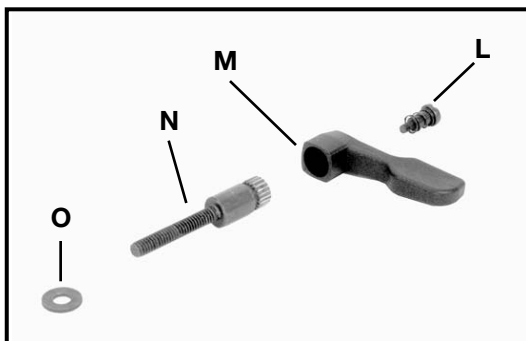
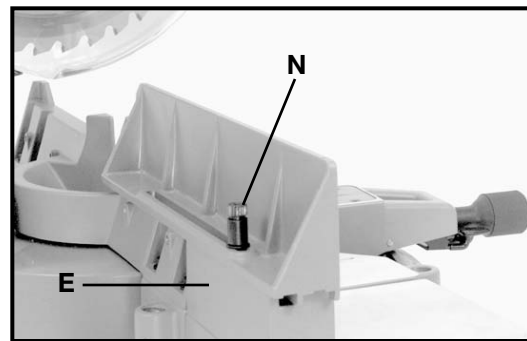

Fig. 7G
Fig. 7H
7. Remove screw and spring (L) Fig. 7G, and lock handle (M) from locking stud (N).
8. Place 1/4" flat washer (O) Fig. 7G, onto locking stud (N) and insert locking stud (N) Fig. 7H, through slot in fence slide. Thread locking stud into threaded hole in fence slide support (E).